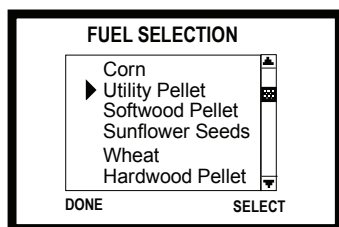

Figure 27.1
- For example, if you have selected wood pellets and you are burning corn, the appliance may not light, it may go out or overfeed. **Figure 27.1.**